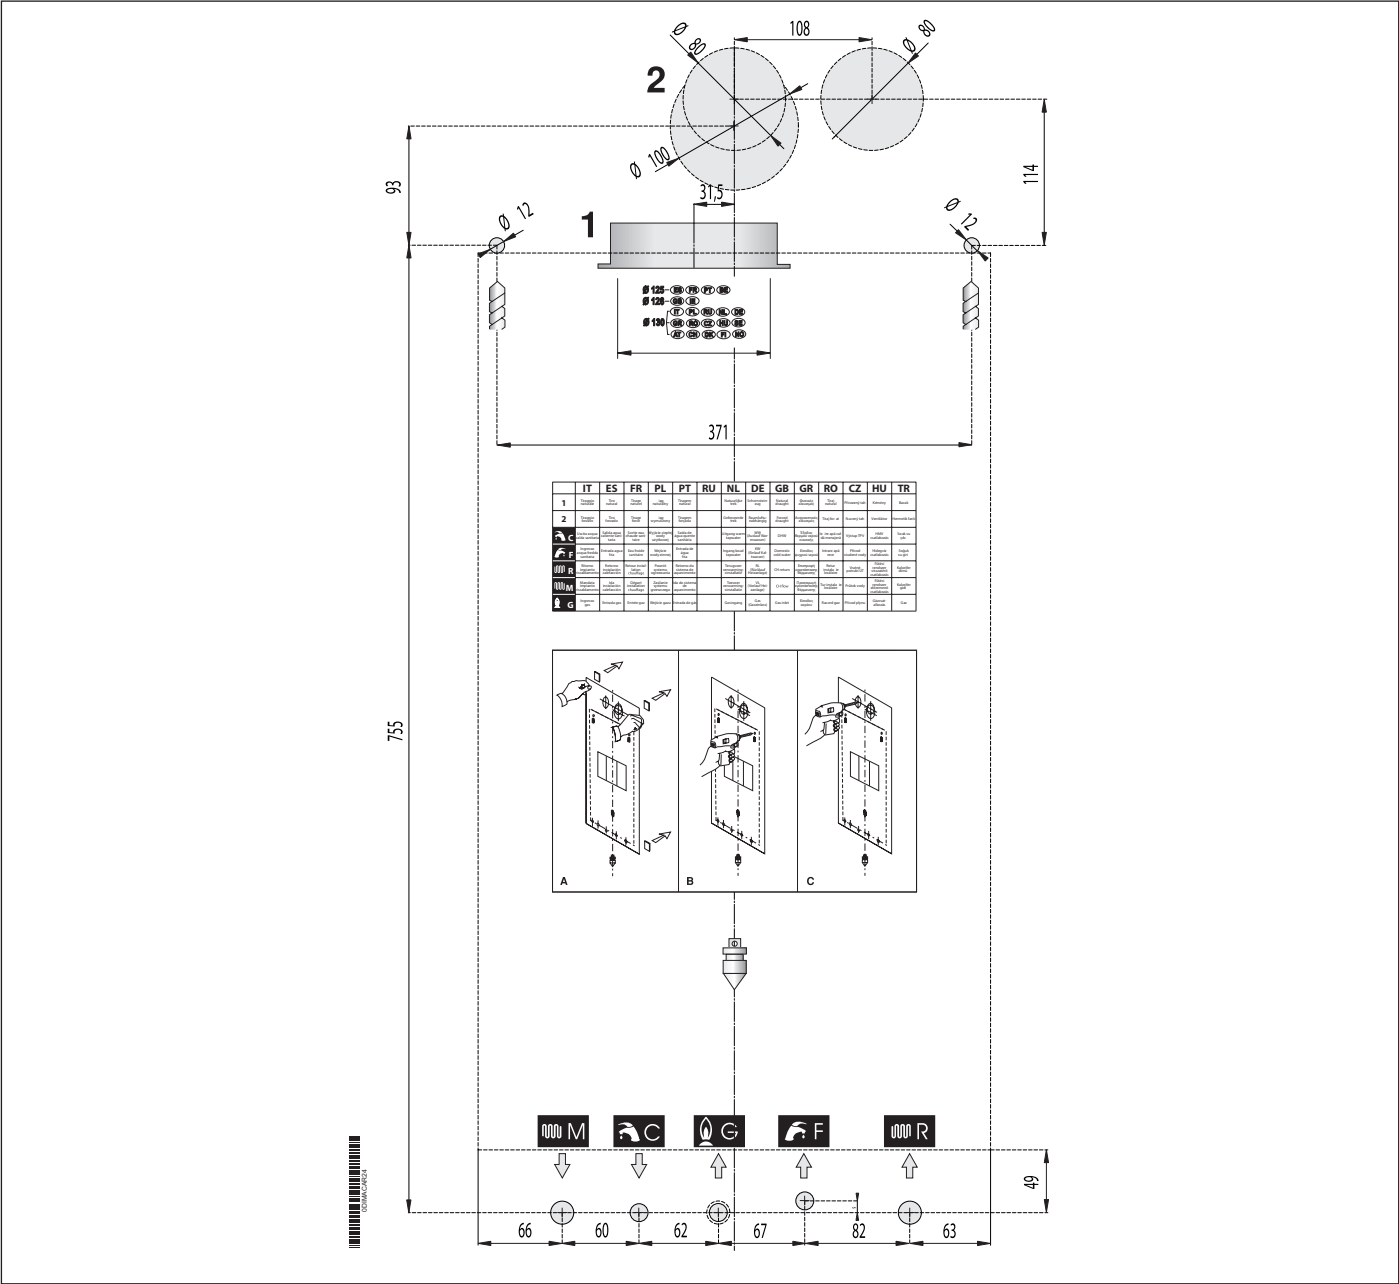

Fig. 5 Paper template
- the template for mounting the boiler on a wall (see Fig. 5 Paper template).
Each boiler is supplied with a paper template, found inside the packaging (see Fig. 5 Paper template). The template allows you to ensure that the pipes connected to the CH system, the DHW system and the gas mains, and the air intake/flue gas venting ducts are all laid out correctly during the realisation of the water system and before installation of the boiler. This template is made of heavy-duty paper and must be fixed, with the help of a level, onto the wall where the boiler is to be mounted. The template provides all the indications required to drill the boiler mounting holes to the wall, procedure which is done using two screws and wall blocks. The lower area of the template shows where to mark the exact point at which the couplings are to be positioned for boiler connection to the gas supply pipe, cold water mains supply pipe, hot water outlet, CH flow and return pipes. The upper area of the template shows where flue gas ducts are to be positioned.
The CH flow and return pipes must be connected to the respective 3/4" connectors (M) and (R) on the boiler (see Fig. 5 Paper template).
Cold water inlet and DHW outlet shall be connected to the boiler through the special 1/2" (F) and (C) fittings (see Fig. 5 Paper template).